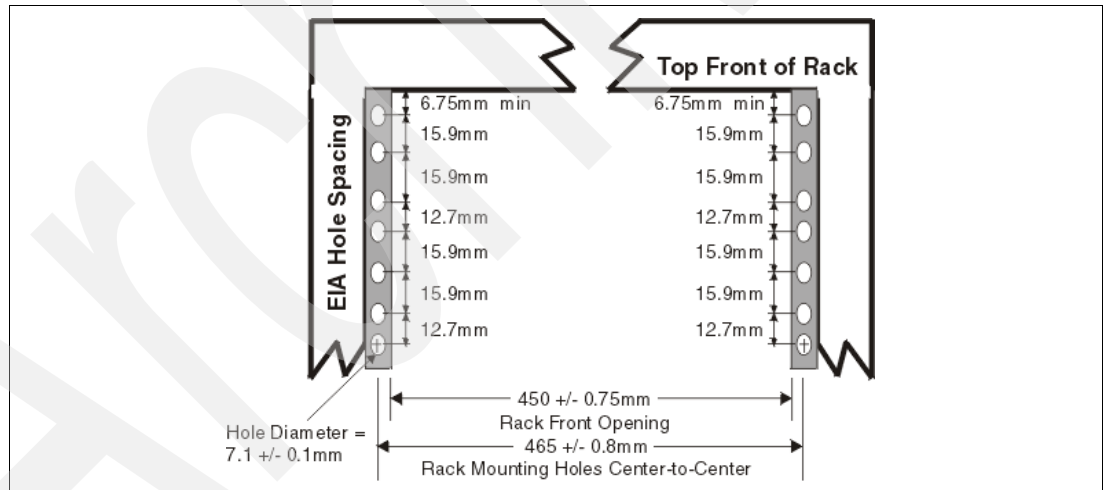
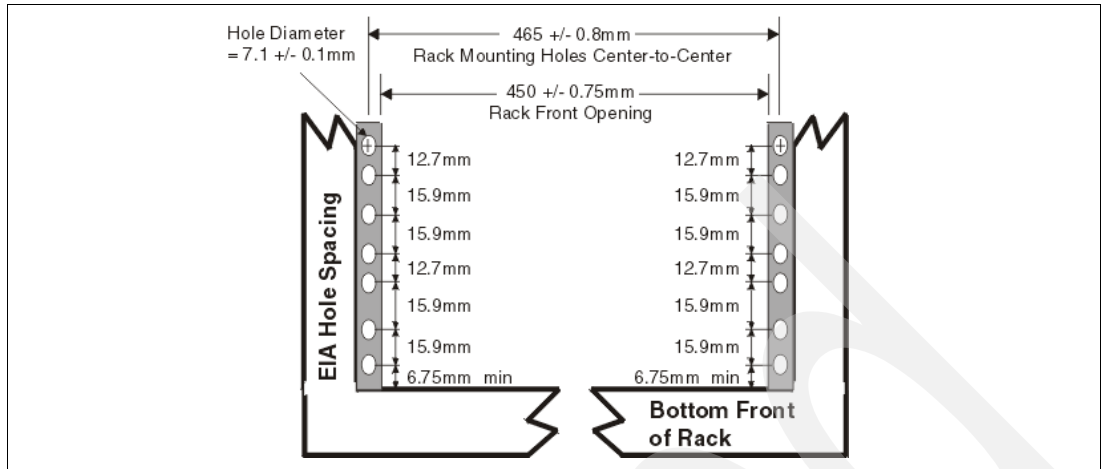

Figure 1-6 Rack specification dimensions, top front view
Figure 1-7 Rack specification dimensions, bottom front view
- The vertical distance between the mounting holes must consist of sets of three holes spaced (from bottom to top) 15.9 mm (0.625 in.), 15.9 mm (0.625 in.), and 12.67 mm (0.5 in.) on center, making each three-hole set of vertical hole spacing 44.45 mm (1.75 in.) apart on center. Rail-mounting holes must be 7.1 mm + 0.1 mm (0.28 in. + 0.004 in.) in diameter. See Figure 1-6 and Figure 1-7 on page 23 for the top and bottom front specification dimensions.